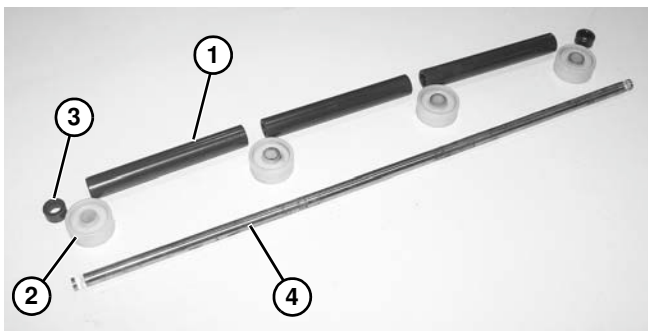

Figure 82
4. Disassemble spacer tubes (Figure 82, item 1), rollers (Figure 82, item 2), and end spacer tubes (Figure 82, item 3) from shaft (Figure 82, item 4).